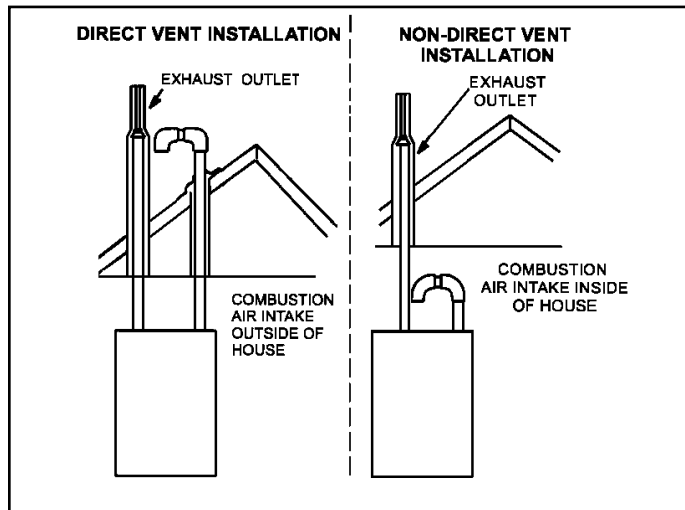
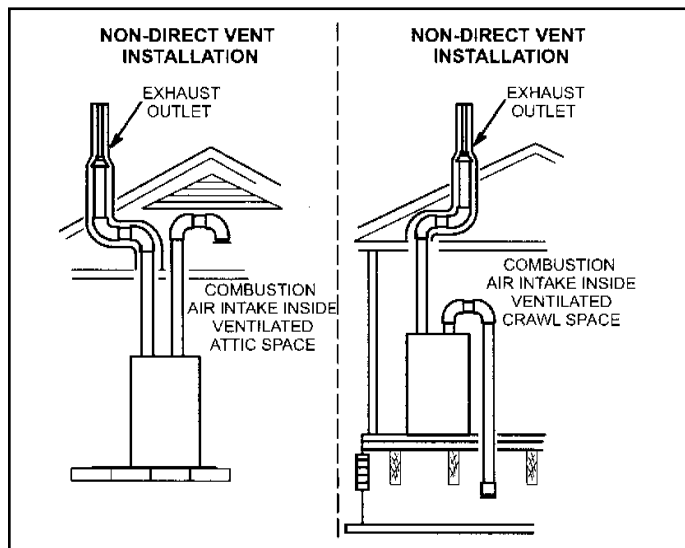

Figure 2.
Figure 3.
**NOTE:** *In Direct Vent installations, combustion air is taken from outdoors and flue gases are discharged outdoors. Non-Direct Vent installations, combustion air is taken from indoors or a ventilated attic or crawl space and flue gases are discharged outdoors. See Figure 2 and Figure 3 for applications involving roof termination.*